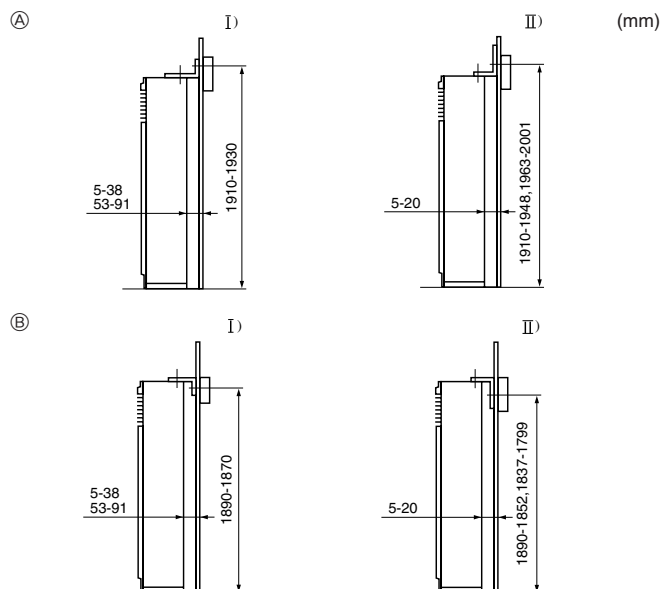

Fig. 3-3
① Tip-over prevention bracket
The tip-over prevention bracket ① is set on the top surface of the unit. Remove the tapping screws ②, and then reinstall the bracket, as shown in the illustration. For the proper installation distances, see Fig. 3-3.
② Screw
③ Remove the screw ③ and then pull the grill forward to remove it.
3.3. Mounting the tip-over prevention bracket (Fig. 3-3)